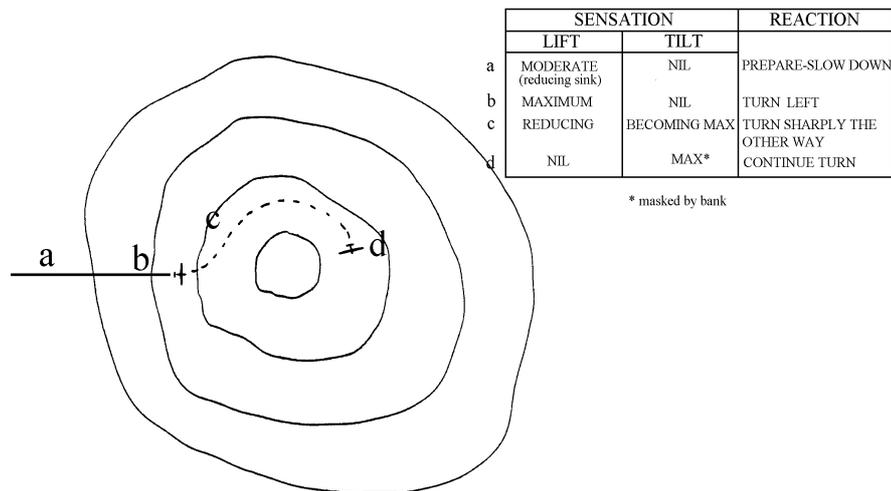

FIG 6. ENTERING HEAD-ON TO CORE
7. Finally the glider may be flying head on to the core (**Fig 6**). Now the sensations will be **maximum lift** and **minimal tilt**. Depending on the speed of the glider and the size of the thermal the sensation of lift may be quite dramatic and the temptation is to charge straight on hoping for more of the same! In fact to arrive directly in the centre of the core may be a mistake, because a turn either way is bound to carry the glider away from the centre. The reacton should be to turn a little either way and then turn back sharply in the opposite direction when the wing is felt to tilt in response to being placed across the contours.